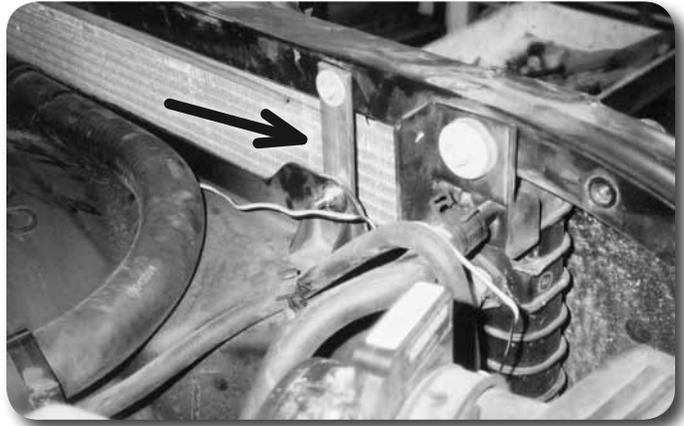

Figure 20
36. Install the 3" fan shroud relocation brackets (same as used for ground strap in last step) to the original shroud mounting holes using the stock bolts Figure 20.